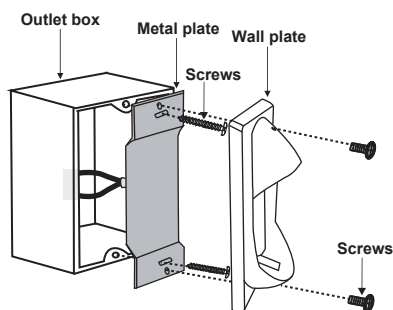

Figure 17
Step 2. Install the metal plate and wall plate to the existing wall outlet box with 4 screws provided. (Fig. 17)